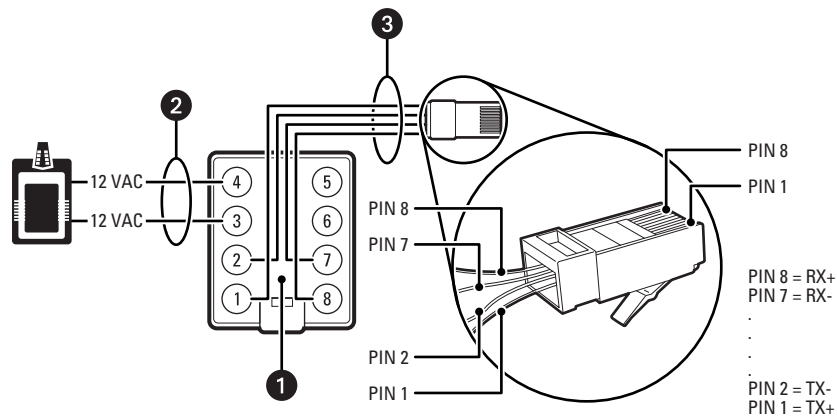

Figure 64. KBDKIT Wall Block and RJ-45 Cable Wiring
You must set up the KBDKIT first. Figure 64 illustrates how to wire the user-supplied data cable and connect the 12 VAC transform to the wall block. Refer to the Parts List for information about the items required to connect the KBD300A to the DX8100. The only item not included in the KBDKIT is the data cable. The KBDKIT Series Remote Keyboard Wiring Kit manual is included in the kit.
- b. Wire the RJ-45 pigtail to the wall block shown in Figure 64 on page 62).